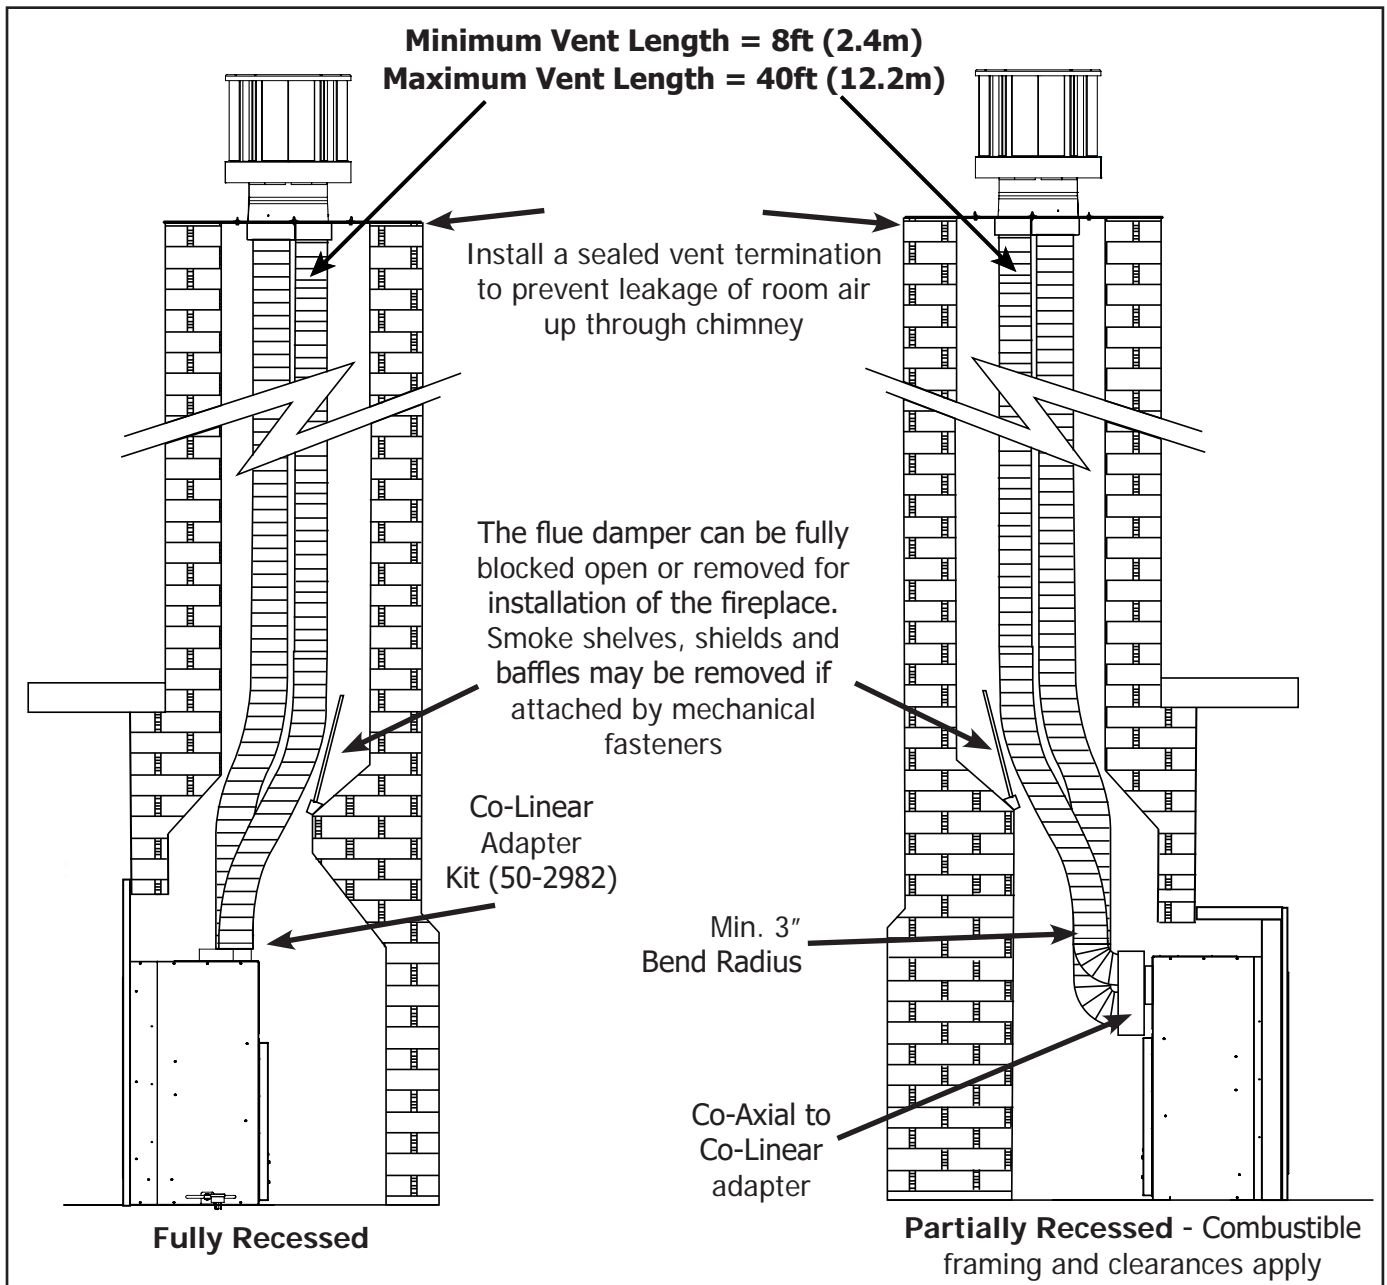

Figure 53: Min and Max Vertical Termination
Figure 53 below shows the range of possible co-linear vent configurations if the unit is top or rear vented, for vertical terminations only. Measure the height of the chimney beforehand and purchase the appropriate length of venting. Never attempt to over-stretch a flexible liner to accommodate the height of the chimney. Every joint in the venting must be secured with three (3) #8 x 3/8" HWH sheet metal screws and appropriate sealant (silicone or stove cement). The fireplace chimney must be clean, in good working order and constructed of non-combustible materials. Make sure that all chimney cleanouts are tight fittings and will not permit air to leak into the chimney.